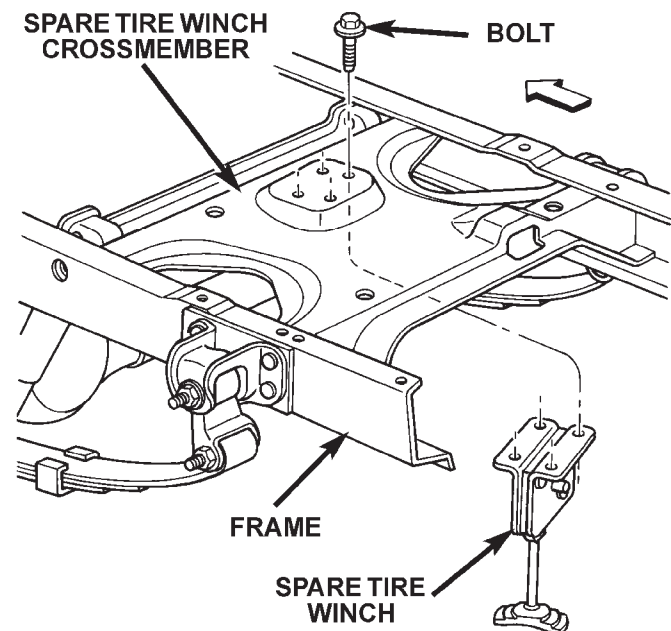

Fig. 6 Spare Tire Winch
- (1) Remove spare tire from under vehicle.
- (2) Remove bolts holding spare tire winch to spare tire bracket (Fig. 6).
- (3) Separate spare tire winch from vehicle.